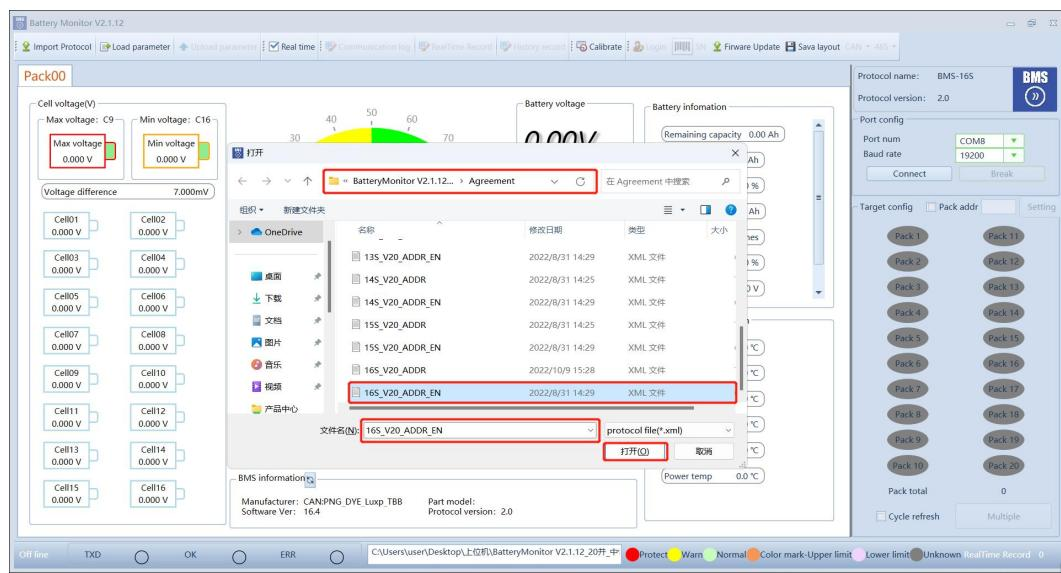

Figure 3-2
- 2) Select the protocol file corresponding to the string, the prefix EN corresponds to the English protocol, the prefix without EN corresponds to the English protocol (example: 16 string English protocol-----16S_V20_ADDR_EN), click open,Figure3-2